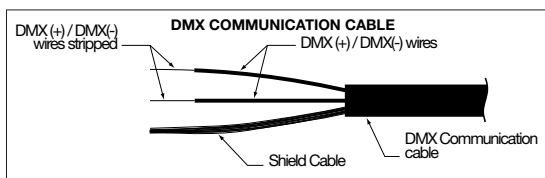

FIGURE 3d
4. Locate the actual shield “cable” within the overall “shield” (see **FIGURE 3d**) and separate it from the individual shield wires. Carefully cut off and remove the shield wires but NOT the small shield cable (see **FIGURE 3d**).